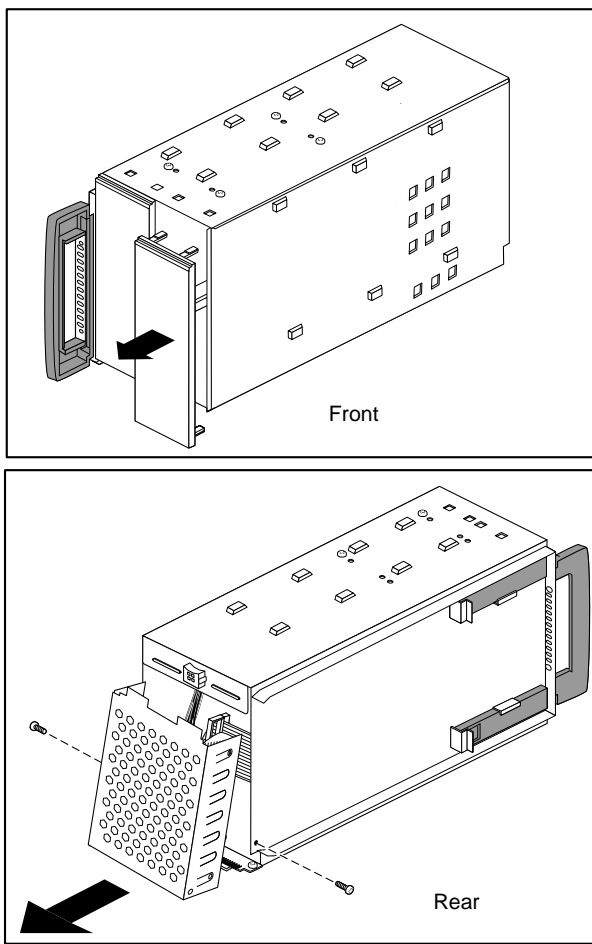

Figure 2-11 Removing a Blanking Plate and the Rear Access Plate From the Peripheral Carrier
- Using a #2 Phillips screwdriver, remove the screws that hold the access plate to the rear of the carrier, then remove the access plate. See Figure 2-11.